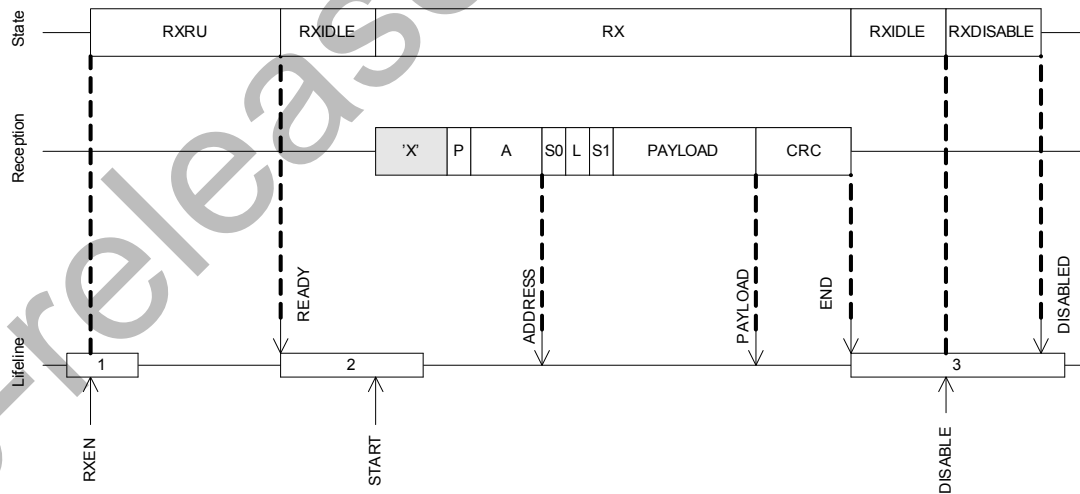
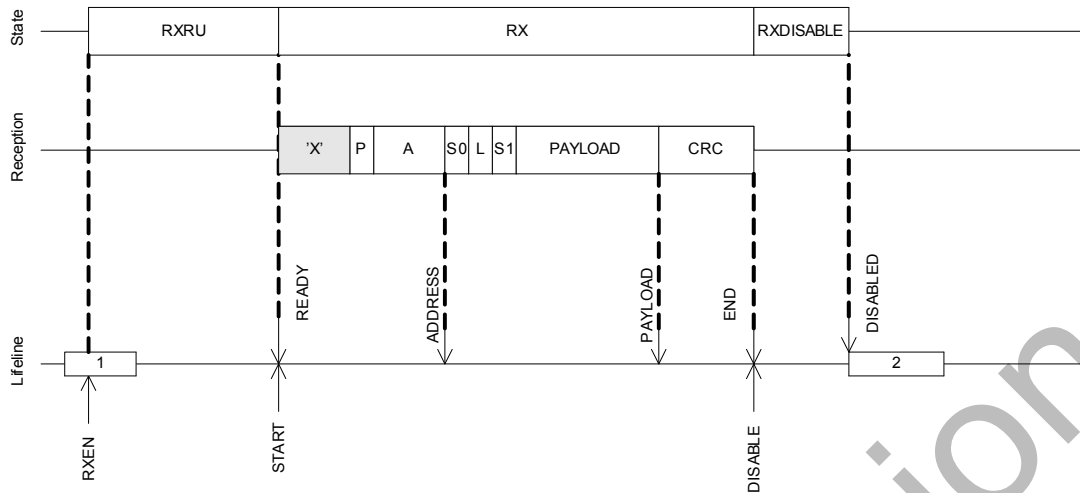

Figure 26 Receive sequence
Figure 27 Receive sequence using shortcuts to avoid delays
Before the RADIO is able to receive a packet, it must first ramp-up in RX mode. An RXRU ramp-up sequence is initiated when the RXEN task is triggered. After the radio has successfully ramped up it will generate the READY event indicating that a packet reception can be initiated. A packet reception is initiated by triggering the START task. As illustrated in **Figure 26** the START task can first be triggered after the RADIO has entered into the RXIDLE state.
Figure 27 on page 75 illustrates a single packet reception where the CPU manually triggers the different tasks needed to control the flow of the RADIO, that is, no shortcuts are used. If shortcuts are not used, a certain amount of delay, caused by CPU execution, is expected between READY and START, and between END and DISABLE. As illustrated in **Figure 27** the RADIO will be listening and possibly receiving undefined data, illustrated with an 'X', from START and until a packet with valid preamble (P) is received.
A slightly modified version of the receive sequence from **Figure 26 on page 74** is illustrated in **Figure 27** where the RADIO is configured to use shortcuts between READY and START, and between END and DISABLE, and therefore no delay is introduced.